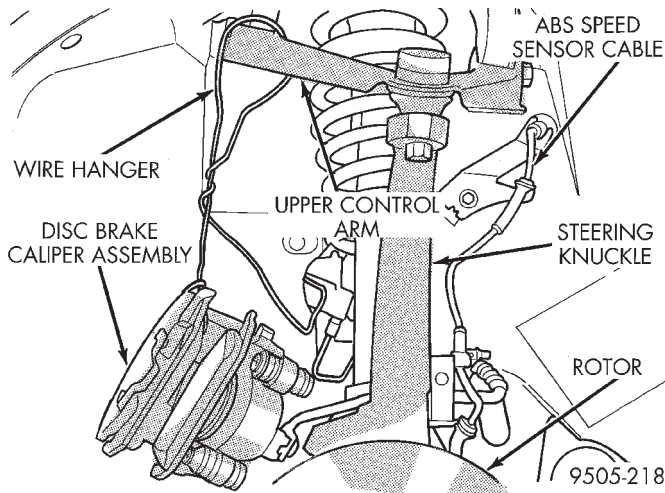
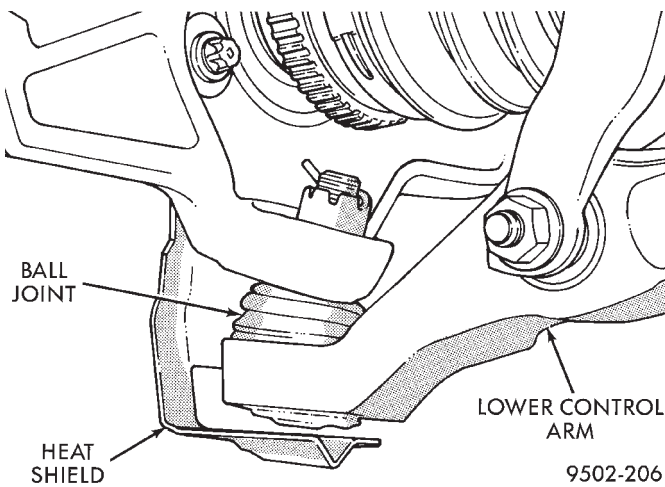

Fig. 34 Correctly Supported Front Disc Brake Caliper
Fig. 35 Ball Joint Heat Shield With 15 Inch Wheels
(7) Support brake caliper/adaptor assembly using a wire hook (Fig. 34) and not by hydraulic hose.
(8) Remove the braking disc from the front hub/bearing assembly.
(9) If vehicle is equipped with 15 inch wheels, remove lower ball joint heat shield (Fig. 35) from lower control arm. **Heat shield must be removed before attempting to separating ball joint stud from steering knuckle.**